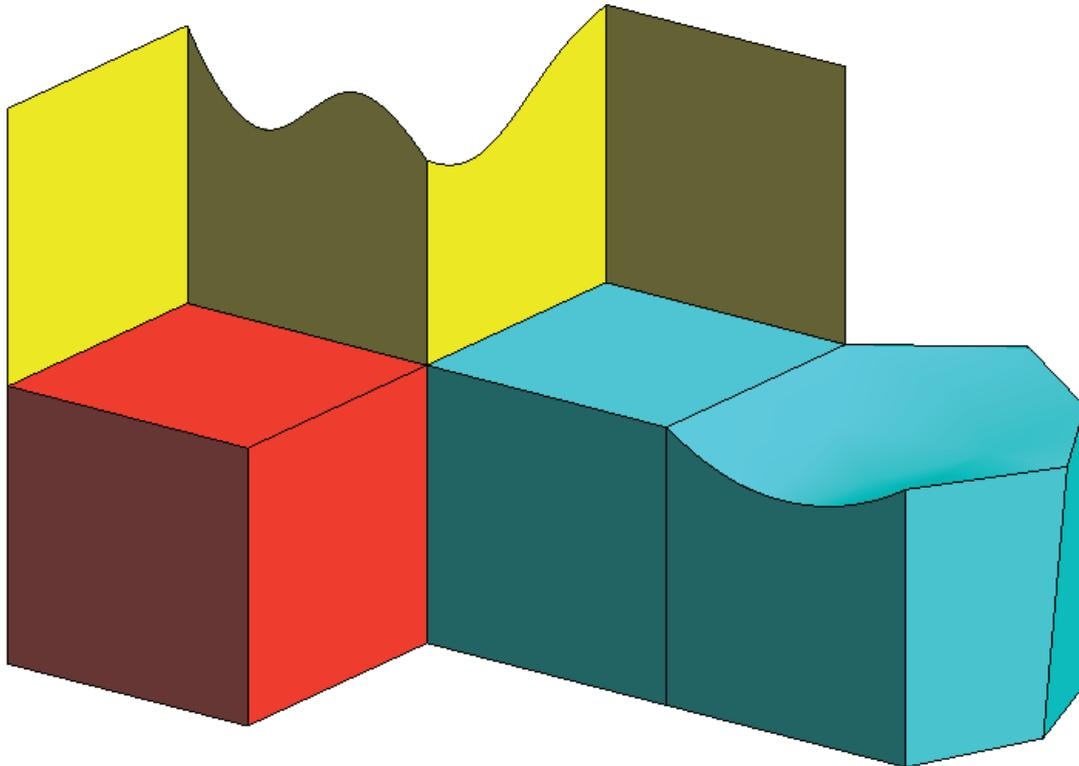

Figure 1. Contents of the project "ToMesh3.gid"
- 2 . The geometry appears on the screen. It is a set of surfaces and three volumes. Select **Render->Flat** from the mouse menu or from the **View** menu. In Figure 1 shows the